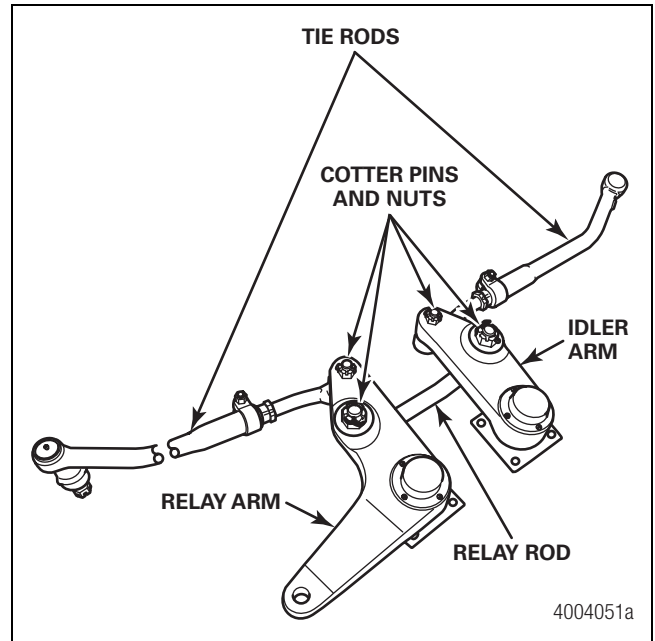

Figure 7.24
5. Position the relay rod into the idler arm and relay arm. Install the castle nuts that secure the relay rod to the idler arm and relay arm. Tighten the nuts to 245-260 lb-ft (332-353 N•m). Continue tightening the nuts to align the nut slot with the cotter pin hole. Do not back off the nuts to align the nut slot with the cotter pin hole. Install the cotter pins. Figure 7.24. **ⓘ**
7. Position the tie rods into the idler arm and relay arm. Install the castle nuts and bolts that secure the tie rods to the idler arm and relay arm. Tighten the nuts to 245-260 lb-ft (332-353 N•m). Continue tightening the nuts to align the nut slot with the cotter pin hole. Do not back off the nuts to align the nut slot with the cotter pin hole. Install the cotter pins. Figure 7.24. **ⓘ**